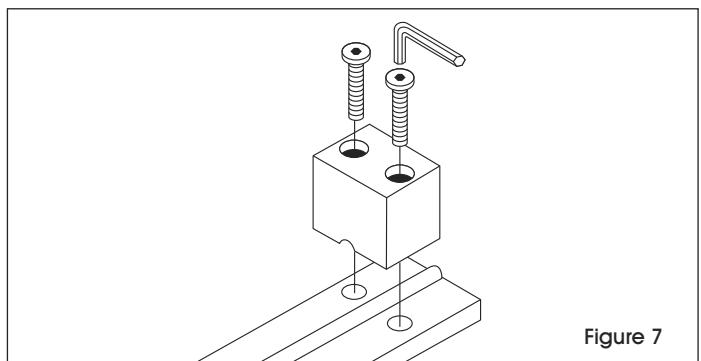

Figure 7
1. Attach stops to the ends of the tracks using two bolts. (See Figure 7)